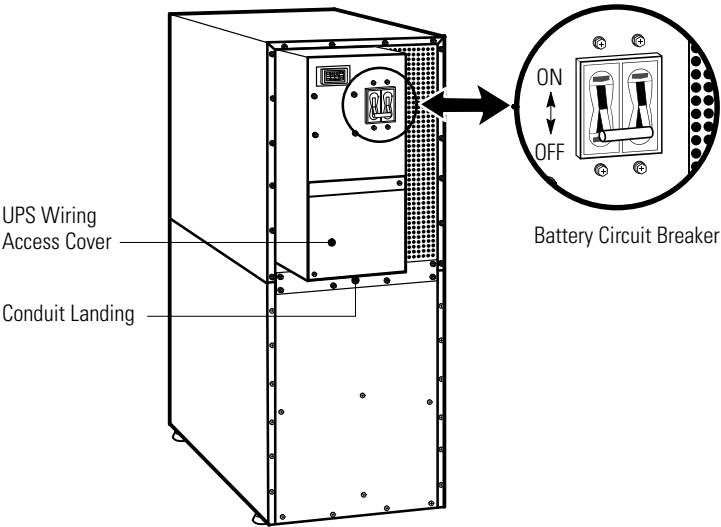

Figure 25. UPS Rear View
5. Verify that the UPS battery circuit breaker is in the OFF position (see Figure 25).
6. Remove the UPS wiring access cover and retain (see Figure 25).